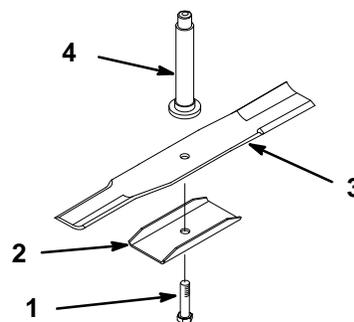

Figure 31
3. Hold the blade end using a rag or thickly padded glove. Remove the bolt, stiffener, and blade (Fig. 31). A block of wood may be wedged between the blade and the mower to lock the blade when you are removing the bolt.
1. Hold the blade end using a rag or thickly padded glove. Install the blade, stiffener, and the blade bolt (Fig. 31).